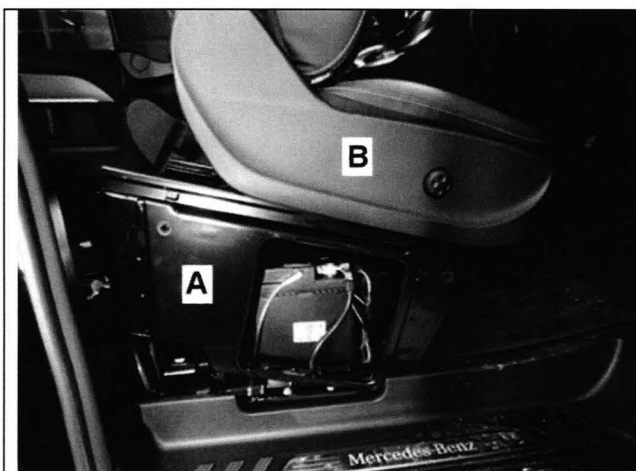
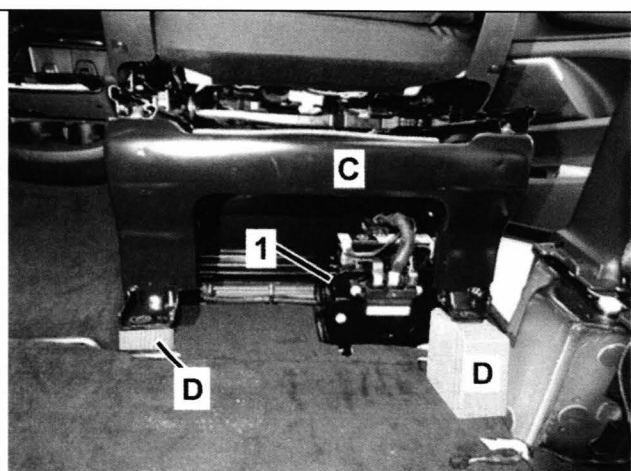
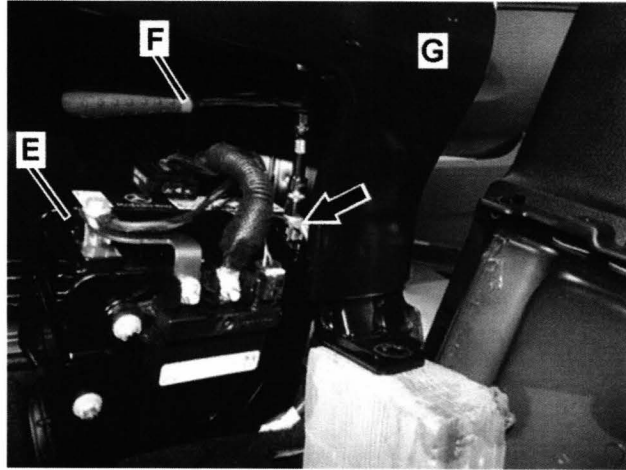

Figure 1
Figure 2
Figure 3
Negative battery cable (arrow, Figure 3) of eco start/stop battery (1, Figure 2) is covered by seat base (A, C Figures 1, 2) and is not accessible with battery (1) mounted under seat base (A, C). Seat base (A, C) must be unbolted and leaned forward to disconnect negative battery cable (arrow, Figure 3):
- Remove seat base mounting bolts (refer to WIS: AR91.10-S-3000E). Do not remove seat (B) or seat base (A, C).